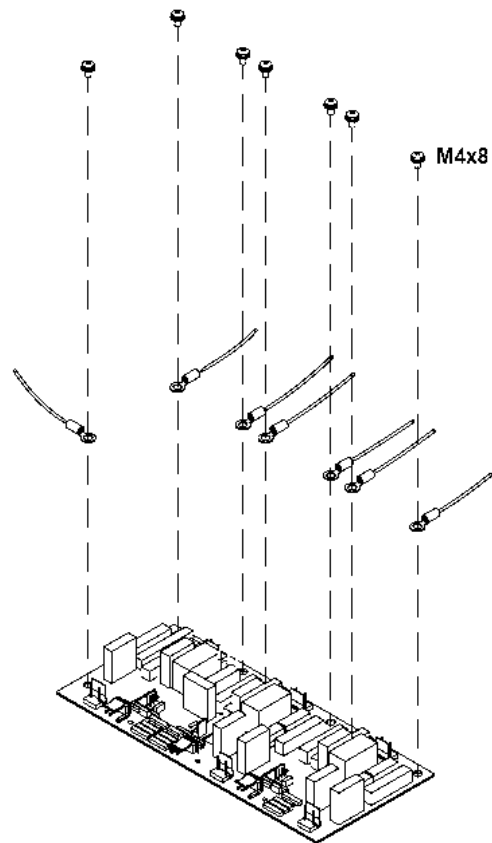

Figure 3.9.(a) Disassembly of the Snubber, Trigger and Soft charge protection
Follow figure 3.9(a), figure 3.9(b) and figure 3.9(c) while reading these instructions:
- 2) Disconnect all output wiring (figure 3.9 (b)).